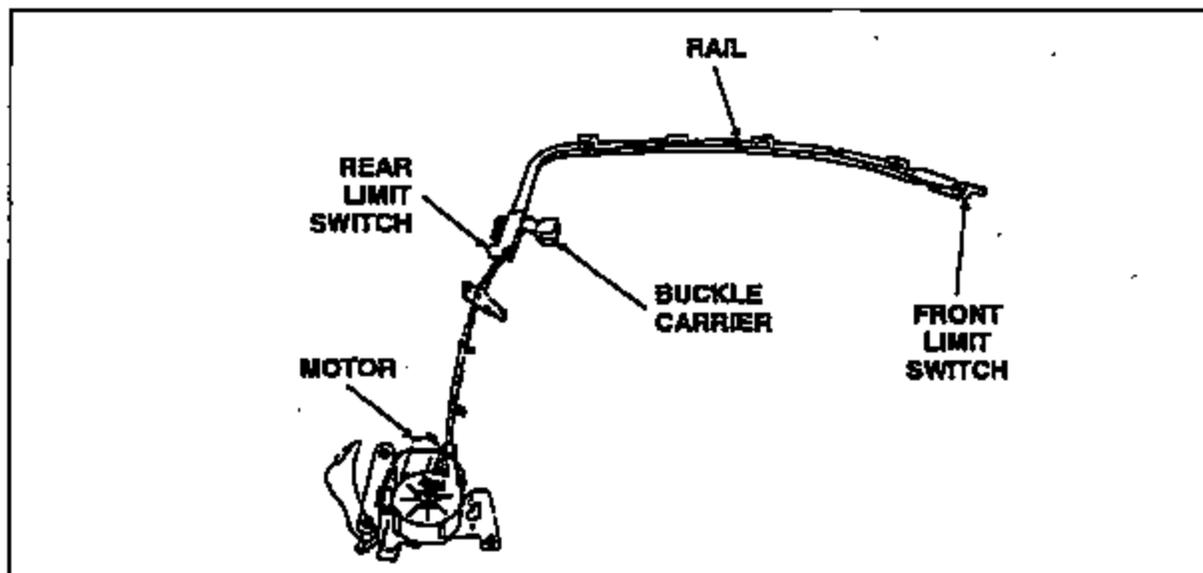

FIGURE 7
13. Remove the rail and motor assembly from the vehicle. See Figure 7.